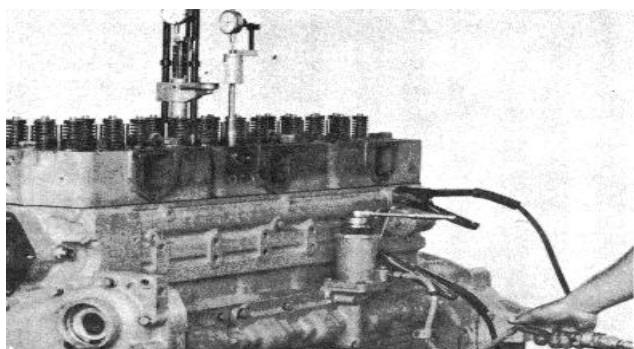

Fig. 14-34. Apply Air Pressure To Actuator Housing.
- c. Apply air pressure to move the actuator plunger to the advance position, Fig. 14-34. The actuator plunger must move freely to the advance position.